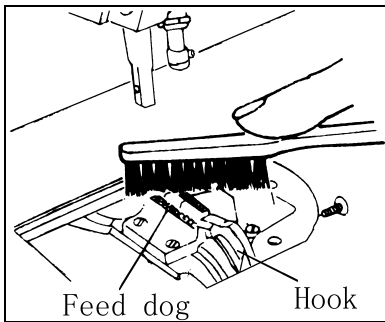

Fig. 34
24. REGULAR CLEANING (Fig.34,35,36)
1) Cleaning feed dog (See Fig.34)